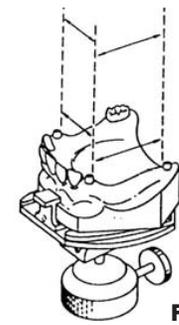

Fig. 2
3. Survey the model and establish a common path of insertion (Fig. 2).